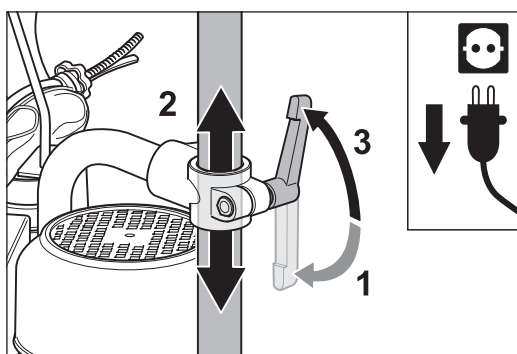
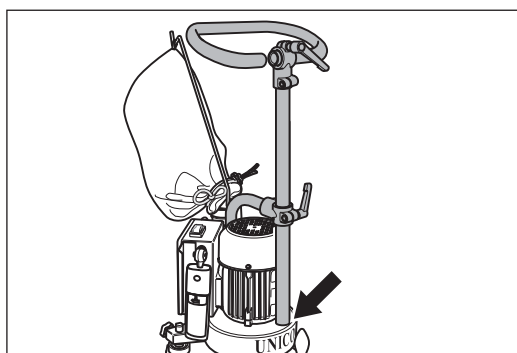

Fig. 13 Undoing the clamping lever (1), sliding the extension to suit your height (2) and tightening the clamping lever (3).
Fig. 14 The extension can also be pushed all the way down to the fan housing.
- 2 To adjust the handle height, undo the clamping lever at the front end of the pipe bend (fig. 13, 1).
- 3 Slide the extension upward or downward (fig. 13, 2). At the bottom, it is also allowed to rest on the fan housing (fig. 14).
- 4 Tighten the clamping lever firmly again (fig. 13, 3).